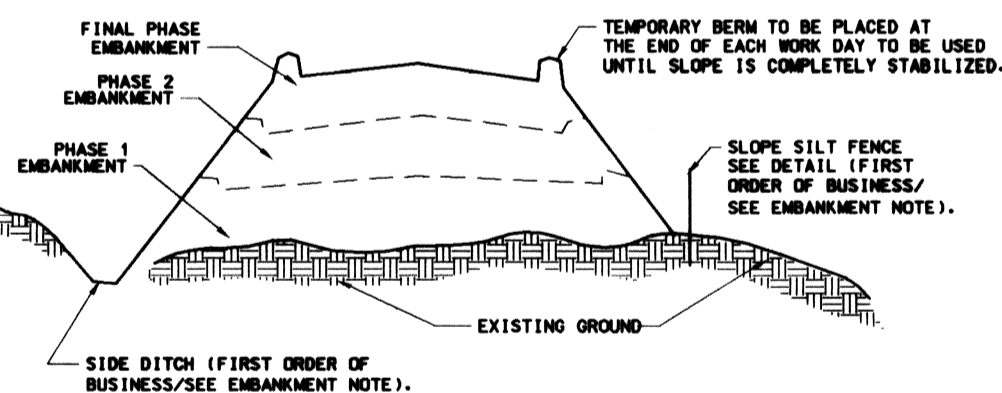

Figure 5 Incremental Stabilization - Embankment Fill Comply with MD 378 Specifications.
7. Construction sequence: Refer to Figure 5 (below)
1. Select one or more of the species or mixtures listed in Table 26 for the appropriate Plant Hardiness Zone (from Figure 5) and enter them in the Temporary Seeding Summary below, along with application rates, seeding dates and seeding depths. If this Summary is not put on the plans and completed, then Table 26 must be put on the plans.
1. Select one or more of the species or mixtures listed in Table 25 for the appropriate Plant Hardiness Zone (from Figure 5) and enter them in the Permanent Seed Summary below, along with application rates and seeding dates. Seeding depths can be determined using Table 25. If this Summary is not put on the construction plans and completed, then Table 25 must be put on the plans. Additional planting specifications for exceptional sites such as shorelines, streambanks, or for special purposes such as wildlife or other treatment may be found in USDA-SCS Technical Field Office Guide, Section 342 - Critical Area Planting, or similar references. See Section IV Soil Maintenance for details on grasses.